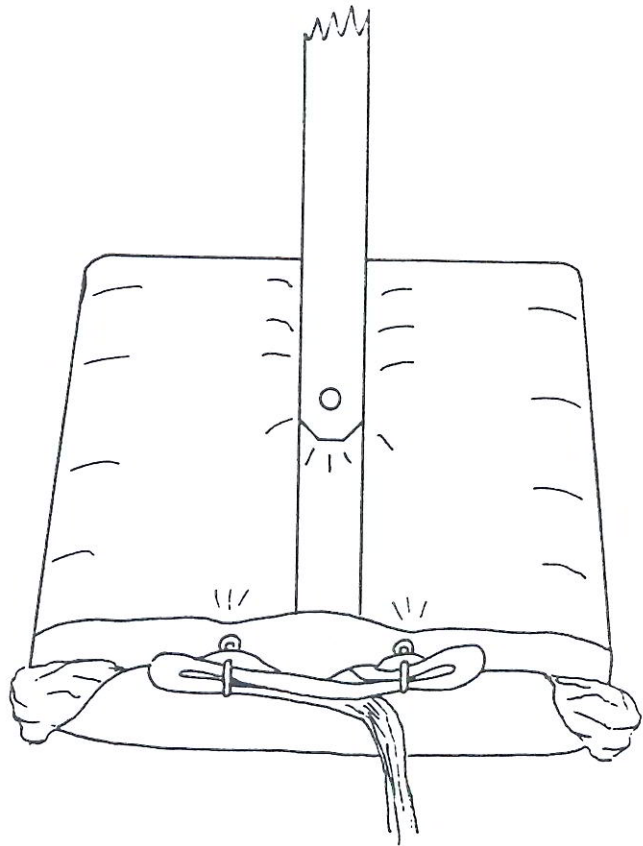

FIG. 6
- 5) Lock the mouth of the bag by making two stows with the suspension lines in the "safety-stow". (This is the loop made of 1/8" shock cord.) (FIG. 6)